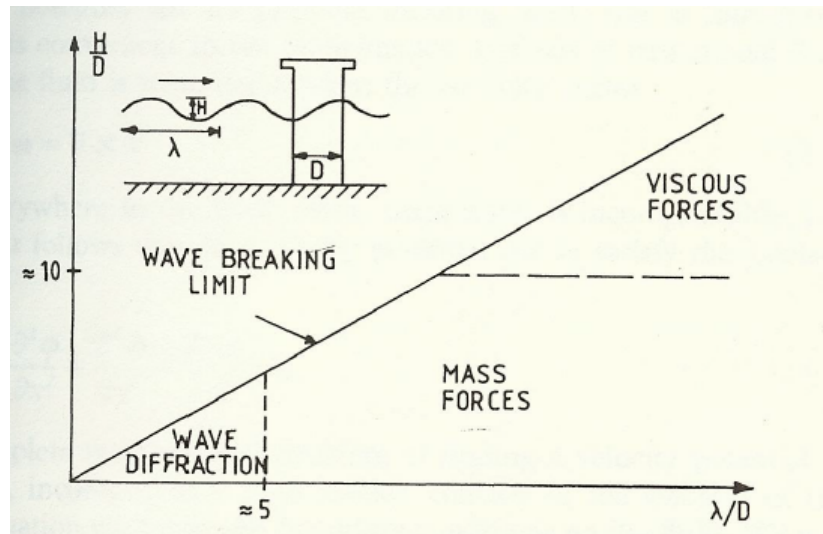

Figure 57: Relative importance of mass, viscous drag, and diffraction forces on marine structures (Faltinsen, 1990)
- ✎ It is reasonable to ignore radiation and diffraction loads when the characteristic length of the object in question can be said to be much smaller than the incident wavelengths, as described in Figure 57. This is not the case for the 20m by 20m by 2m barge, as the wavelength of the incoming waves is on the same order as the length of the barge.